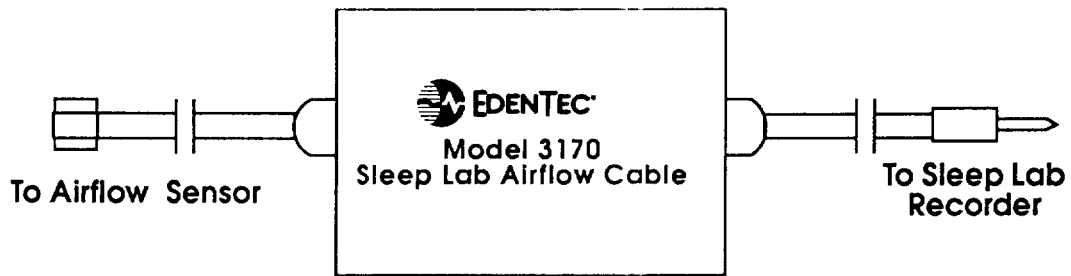

Figure 1
- 1 - Model 3170 Sleep Lab Airflow Cable (Figure 1)